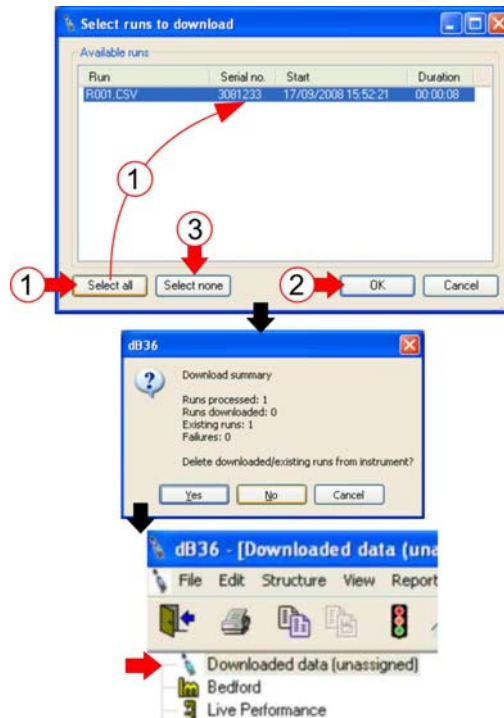

Figure 18 Download a Run
- B. The Select Runs to Download window is displayed showing the runs available (Refer to Figure 18). Click **Select All** (1) to highlight the runs for download. Click **OK** (2) to download the data. Click **Select None** (3) to cancel the selection.